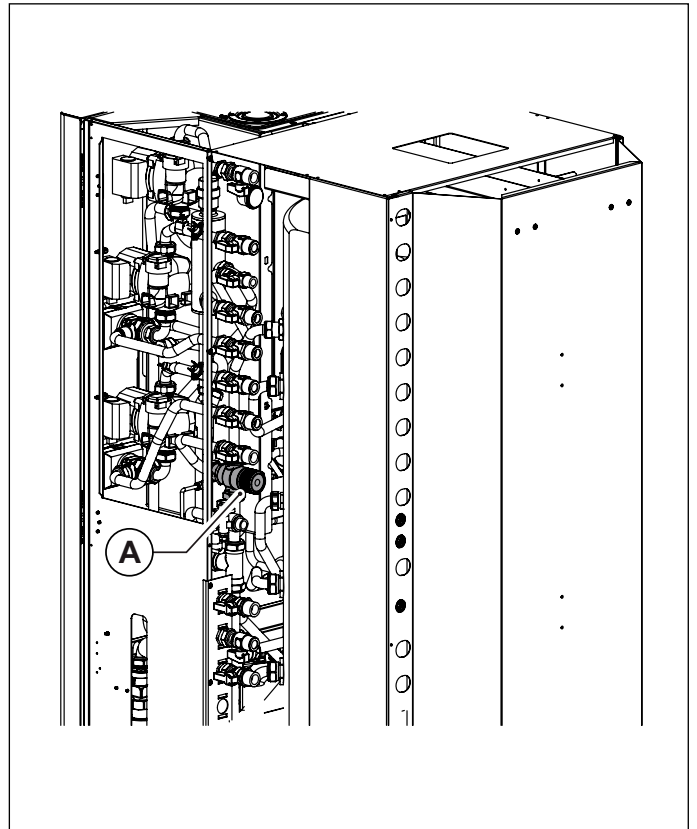

Fig. 2 Mixing valve position (rear view)
The user can set the DHW temperature by using the manually-adjustable thermostatic mixing valve (A) located in the rear part of the boiler (see Fig. 2 Mixing valve position (rear view)).